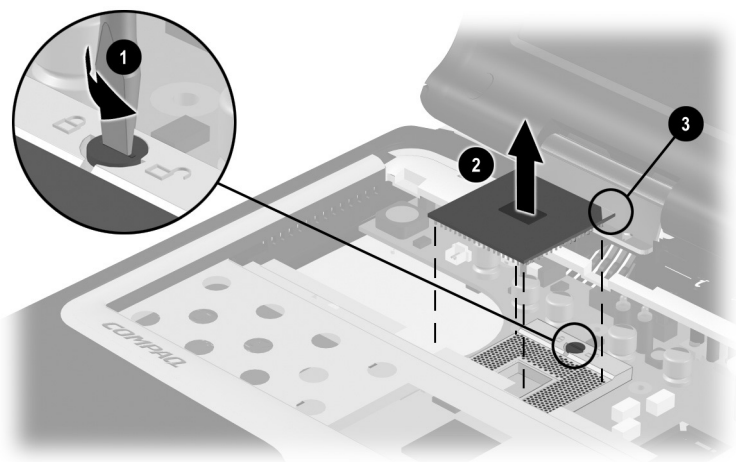

Figure 5-17. Removing the Processor
2. Use a flat-bladed tool to turn the processor locking screw ❶ one-half turn counterclockwise (Figure 5-17).
3. Lift the processor straight up and remove it ❷.